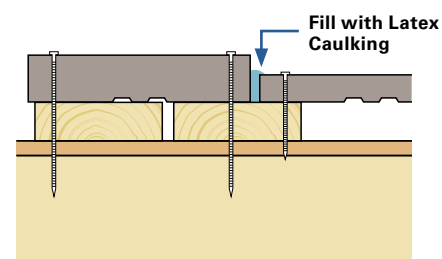

Fig. 16
- Use a high-quality clear or paintable latex caulking to fill all gaps and seal around doors, windows and anywhere the siding meets the trim. *(See Figure 16)*